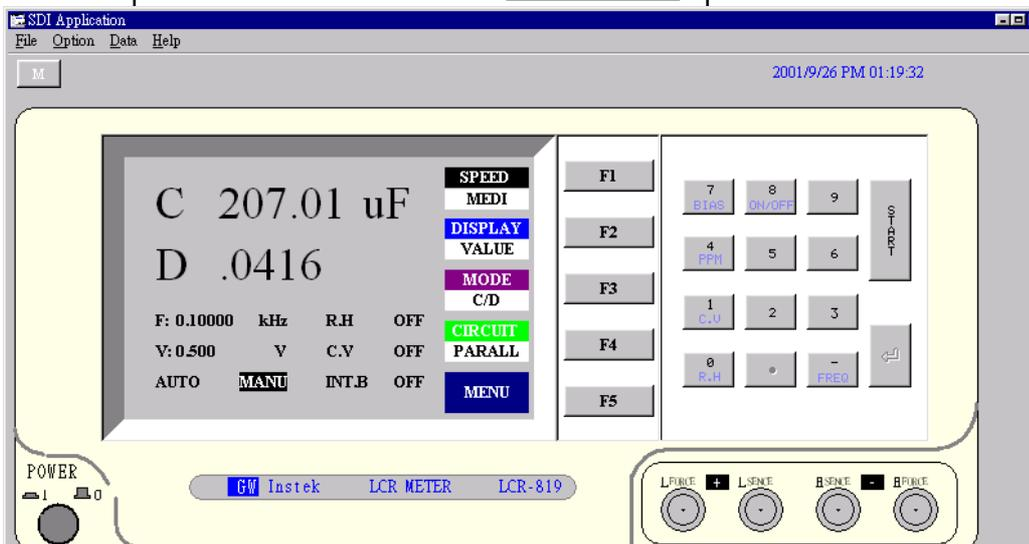

Figure 8-2
- 4) Check the contents of the Message area under the LCR-VIEW to ensure the connection has been successful. If not, select the setting items above the LCR-VIEW to change the Com (serial) port and attempt connection again until communication is established. Refer to Figure 8-2, 8-3, 8-4.